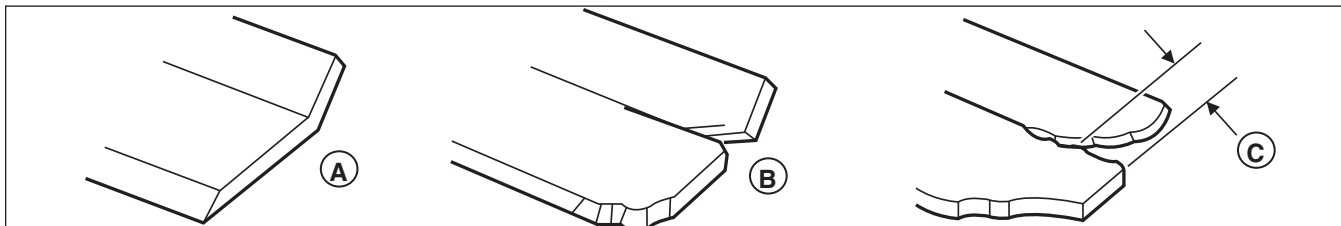

Figure 29. inspecting the Mower Blade Air Lifts
- B.) The air lifts are excessively eroded (B & C, Figure 29) and the notch (C) is .25" (6,35 mm) deep or greater.